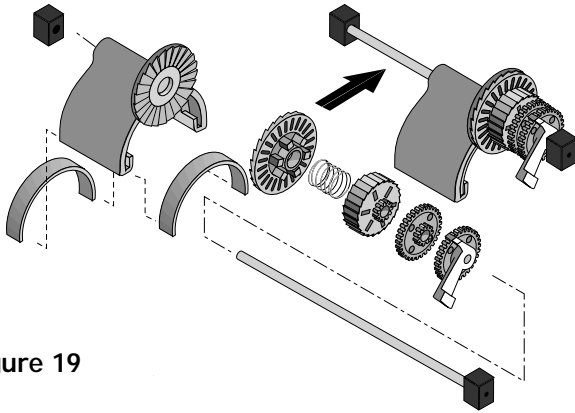

Figure 19
2. Install the oscillator on the long gear shaft. Install the ratchet gear on the shaft so that the teeth engage the ratchet on the oscillator. Install the spring, ratchet drum, pinion gear (large gear first), and cam (gear end first) on the shaft (See Figure 19). Hold the gears on the shaft while installing them, and compress the clutch spring to allow assembly to slip into place between the posts (See Figure 19).